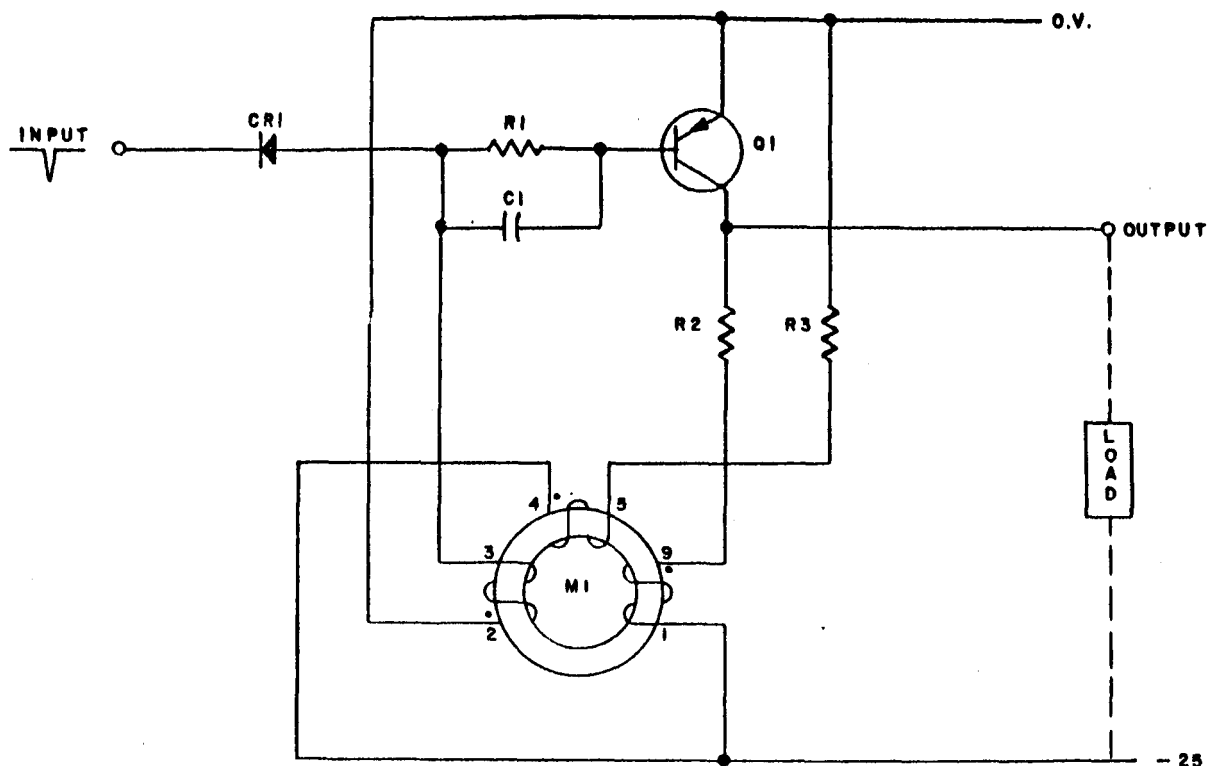

Figure MN-4. Blocking Oscillator (MN12 or MN13)
a. The use of transformers for blocking oscillators is common and widely understood. It is also possible to use a square loop magnetic core as a blocking oscillator transformer with some desirable results in control of pulse width. Figure MN-4 shows the connections of either an MN12 or an MN13 as used in a blocking oscillator.